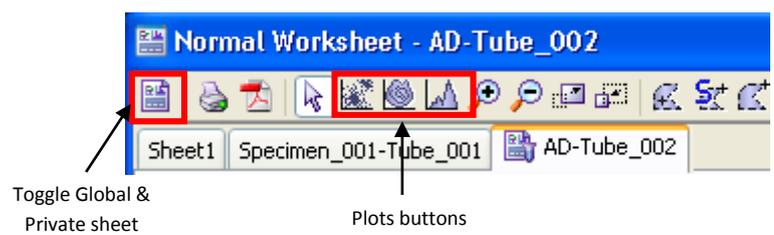

Figure B3 Normal Worksheet toolbar
When done, switch to a Global sheet by clicking the Global sheet icon (Fig. B3).
8. Create the plots and gates needed for recording using the Worksheet toolbar (Fig. B3).